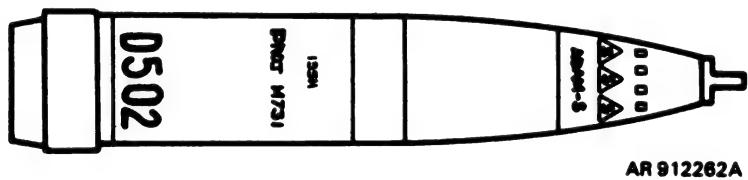

Figure 211.14. M731 projectile.
(13) *Projectile, 155-mm high explosive, M731 (fig. 211.14).* This projectile is exactly like the M692